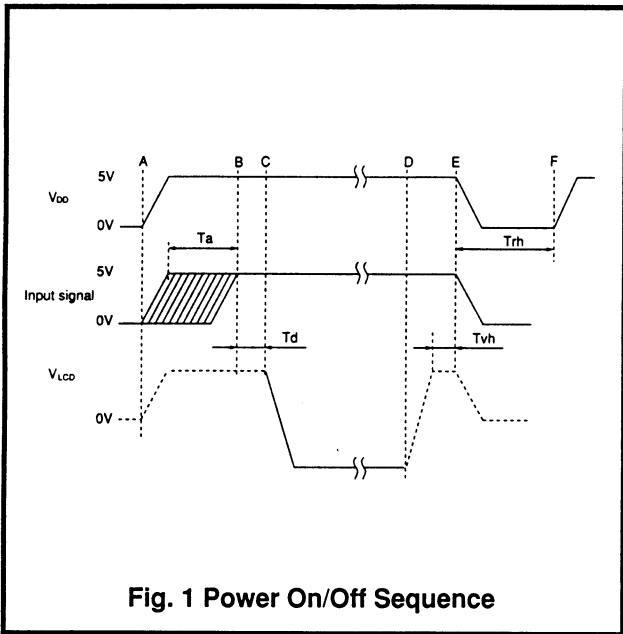
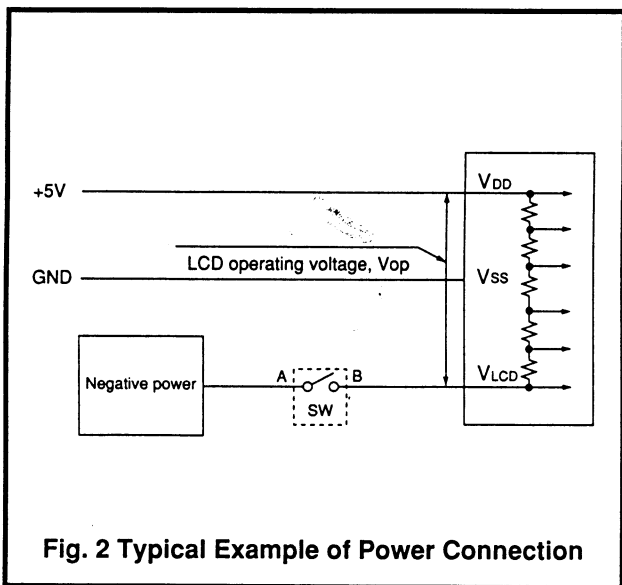
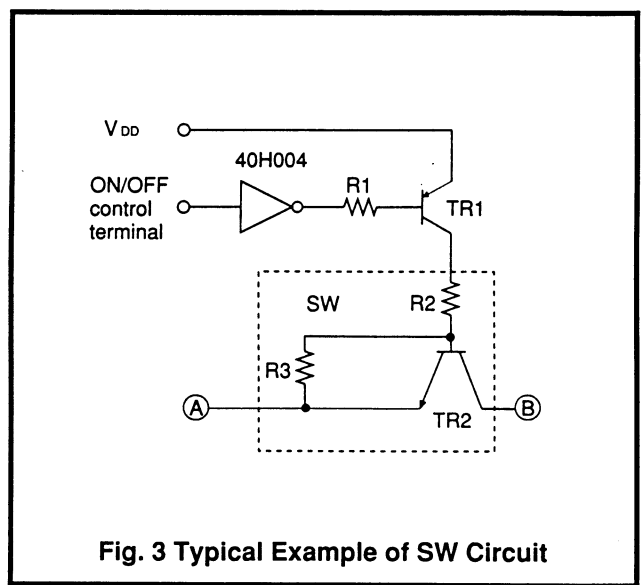

Fig. 1 Power On/Off Sequence
Fig. 2 Typical Example of Power Connection
Fig. 3 Typical Example of SW Circuit
- Follow the power on/off sequence shown in Fig. 1 to prevent a latch-up or DC operation of the LCD Module.
- 1) Fig. 1 shows the voltage levels on module terminals connected with power supply and signal line.
- 2) VLCD on Fig. 1 shows Off state of switch shown Fig. 2 with a dashed line, On state with a solid line.
- 3) A circuit example for the SW portion of Fig. 2 is given in Fig. 3.
- 4) The minus voltage on Fig. 2 should be satisfied at least with the LCD power current shown in the DC characteristics.